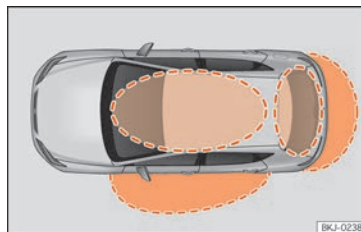
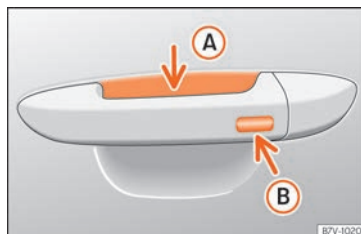

Fig. 83 Keyless Access: proximity zones.
Fig. 84 Door handle: sensor surfaces
»» Fig. 84
Keyless Access is a key-free locking and ignition system to unlock and lock the vehicle without actively using its key. To do this, all that is required is to have a valid vehicle key in the detection area where you are attempting to access the vehicle »» Fig. 83 and to touch one of the sensor surfaces on the door handles »» Fig. 84 »» ❶.
If a valid key is in the proximity of the car »» Fig. 83, the Keyless Access locking and starting system gives the key entry as soon as
- Grip the driver door handle. When you do this, you touch the sensor surface »» Fig. 84 ❶ (arrow) of the handle and the vehicle unlocks.
- Touch (once) the locking sensor surface »» Fig. 84 ❷ (arrow) on the driver's door handle. The door that is used must be closed.
- Touch (once) the sensor surface »» Fig. 84 ❷ (arrow) on the driver's door handle. The vehicle locks with the "Safe" security system »» page 102. The door that is used must be closed.
• Touch (twice) the sensor surface »» Fig. 84 (B) (arrow) of the driver door handle to lock the vehicle without activating the “Safe” security system »» page 102.
When the vehicle is locked, the rear lid automatically unlocks on opening if there is a valid vehicle key in the proximity »» Fig. 83.
- Push the central locking button  on the remote control and touch the locking sensor surface of the driver door handle »» Fig. 84 (B) within the following 5 seconds. Do not grasp the door handle; otherwise the vehicle will not unlock. Deactivation is also possible if the vehicle is locked through the driver's door lock.
To close all the electric windows using the **comfort function**, keep a finger on the locking sensor surface »» Fig. 84 (B) (arrow) of the door handle for a few seconds until the windows have closed.
The sensor surfaces on the door handles could engage if hit with a water jet or high pressure steam if there is a valid vehicle key in the proximity. If at least one of the electric windows is open and the sensor surface »» Fig. 84 (B) (arrow) on one of the handles is activated continuously, all windows will close.